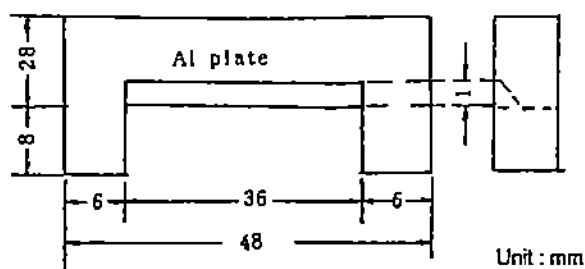

Figure 8
(1) Spread : This should be one made of aluminum as in Figure 8.